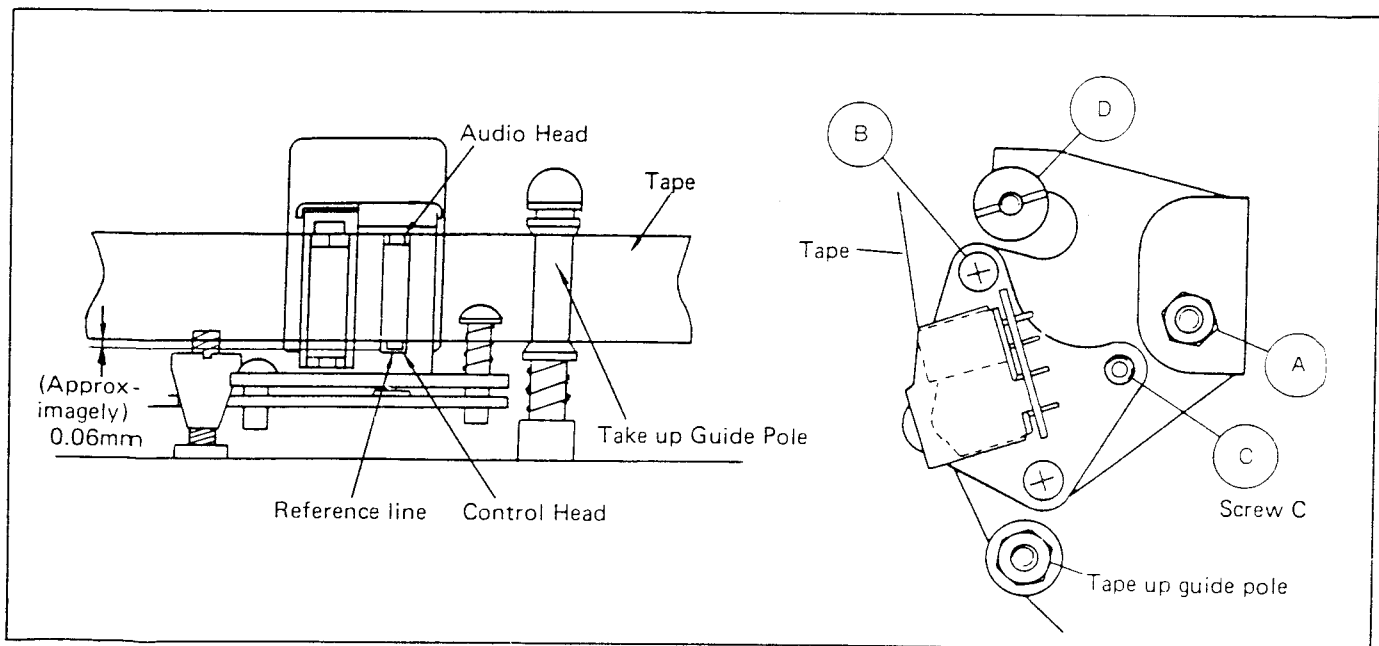

Fig. 4-17 A/C Head Adjustment
6. Check that smooth tape transportation at the take-up guide pole. Especially tape separate and wrinkling. If these problem occur Pre-adjust (A) and (C). (Fig.4-17)
5. Adjust screw ④ to obtain maximum FM output level. (Fig. 4-17,4-19)